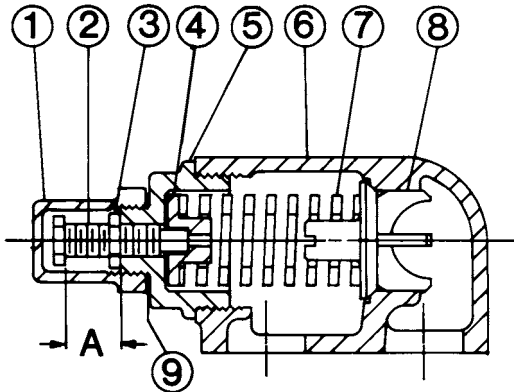

FIGURE 14
2. Measure and record the length of extension of the adjusting screw. Refer to "A" on Figures 14 and 15.